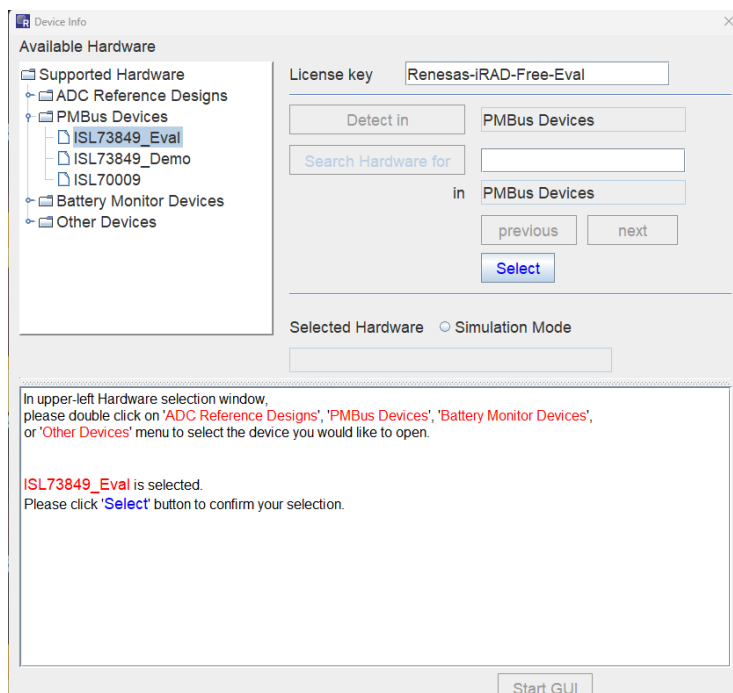

Figure 4. ISL73849_Eval Selection
12. Double click on **PMBus Devices** in the **Available Hardware** window as shown in Figure 4.
13. Click on **ISL73849_Eval** as shown in Figure 4.